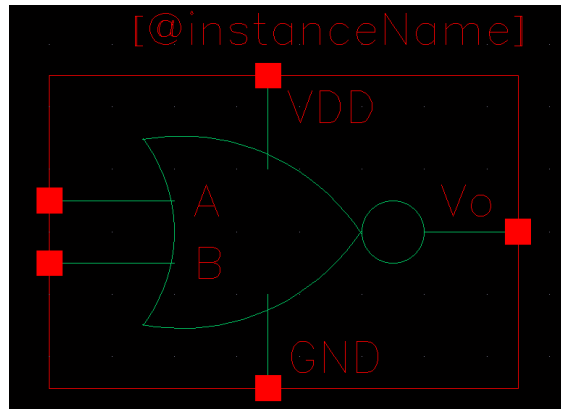

Figure 3. NOR Symbol
2. Create a Symbol from the schematic following the instructions in lab 2. The symbol should look like figure 3.